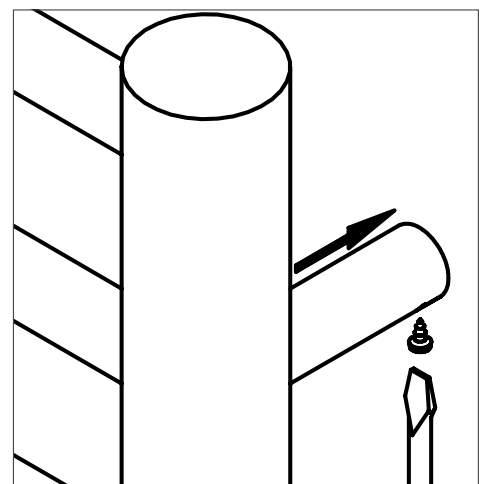

Fig 6.0
- Screw self tapping screws into each of the four legs so that the rail is securely fixed. see Fig 6.0